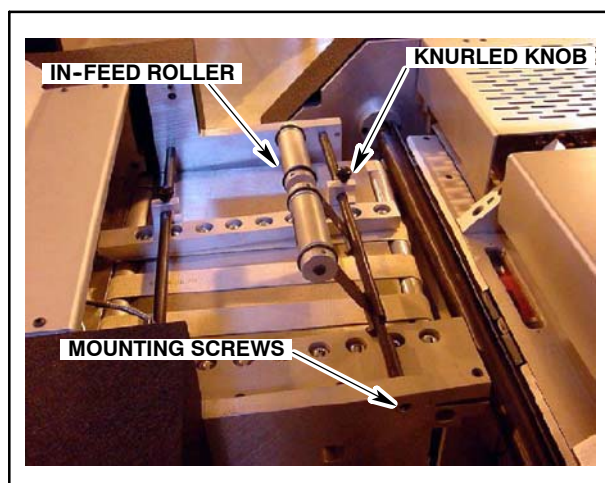

Fig. 4-67. Removing the Tip Die Unit
- Step: 6.** Rotate the in-feed roller out of the way as shown in Fig. 4-67.